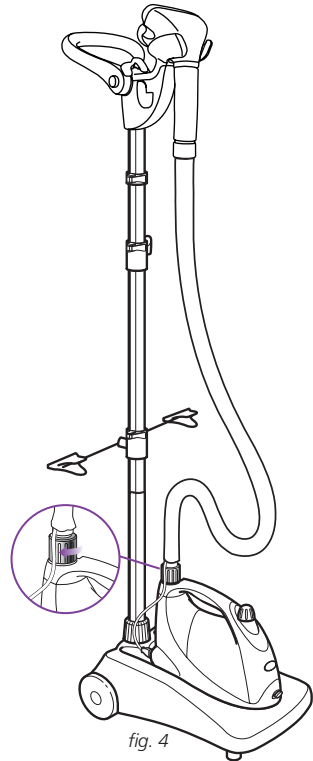

fig. 4
- 4 Attach the steam hose to the steam unit by turning the connector clockwise until it is completely locked. Hang the steam nozzle on the steam nozzle cradle. (**fig. 4**)
- 5 Plug the steam hose power cord (white) into the fabric steamer receptacle which is on the right side of the steamer. (**fig. 4**) This provides the power to heat up the **Wrinkle Eraser™** after the main power cord (gray) is plugged in.